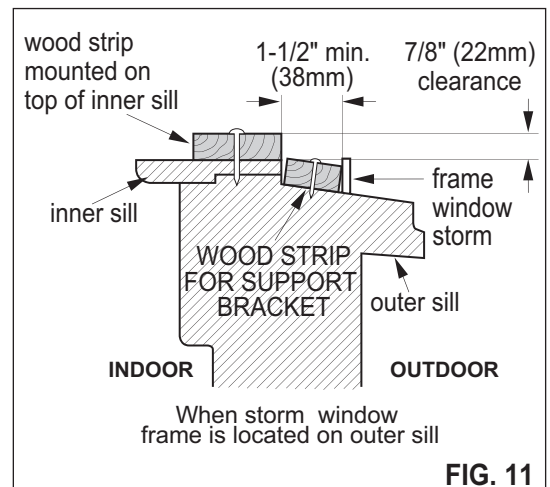

FIG. 11
- * If storm window presents interference, fasten a 2" (51mm) wide wood strip to the inner window sill across the full width of the sill. The wood strip should be thick enough to raise the height of the window sill so that unit can be installed without interference from the storm window frame, See FIG.11. Top of wood strip should be approximately 7/8" (22mm) higher than the storm window frame to help condensation to drain properly to the outside.
- * Install a second wood strip (approximately 6" (152mm) long by 1-1/2" (38mm) wide and same thickness as the first strip) in the center of the outer sill flush against the back of the inner sill. See FIG.11.